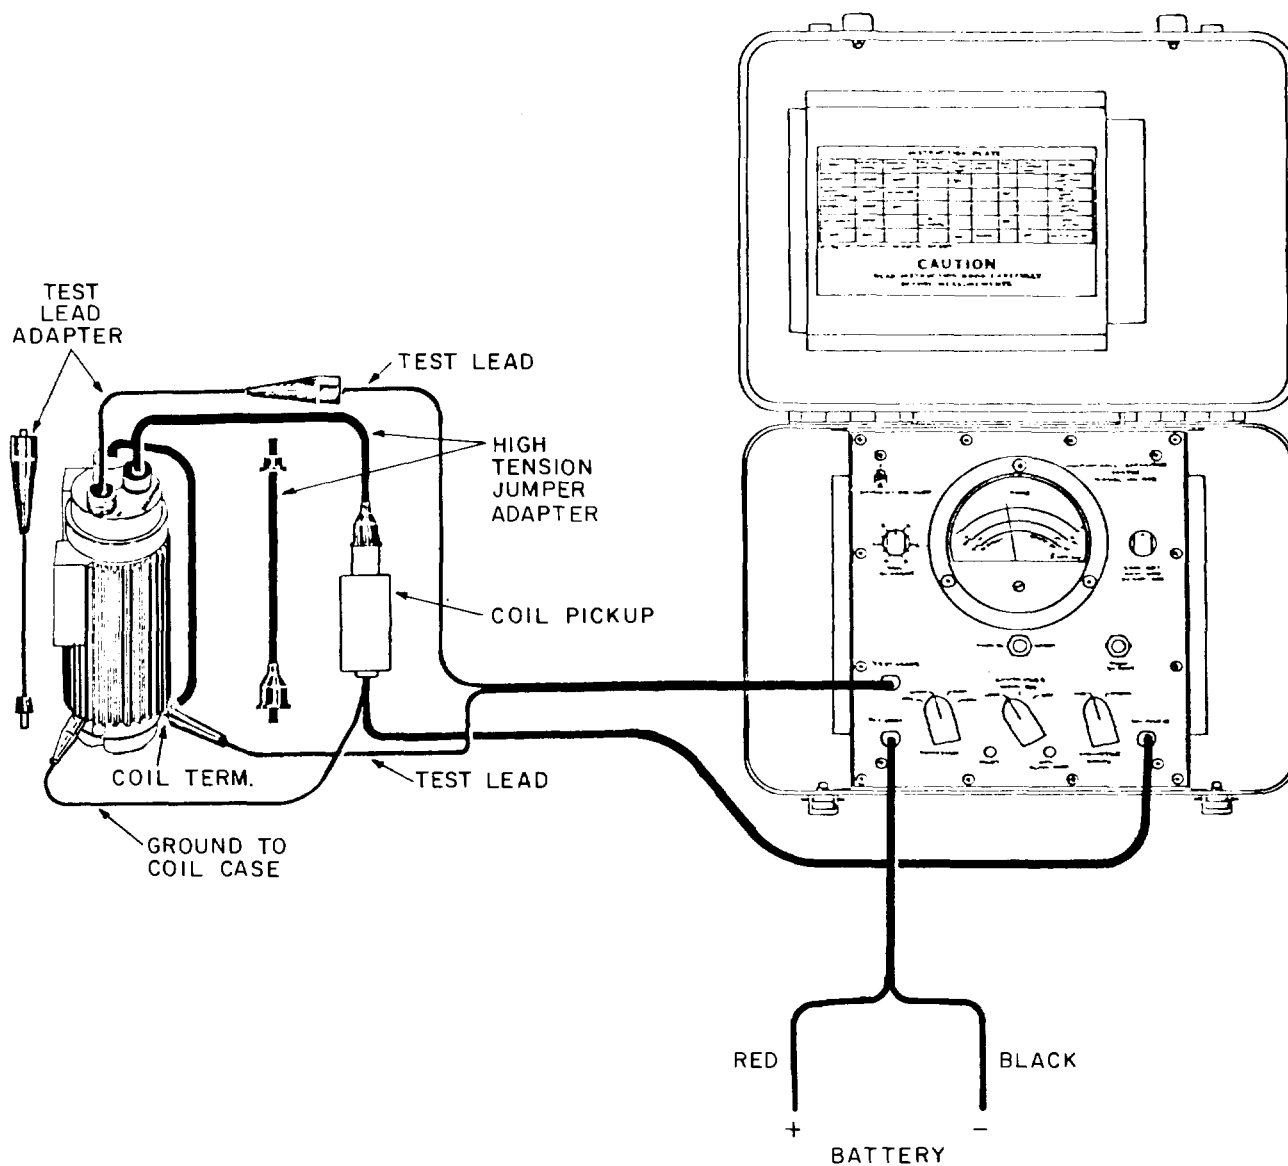

Figure 2-5. Setup for Testing Coil Voltage
- (5) Observe WARNING and depress PUSH TO TEST switch. While holding PUSH TO TEST switch depressed, adjust COIL CURRENT control clockwise until meter indicates 20 to 25 KV on the black scale. Check that COIL FLASHOVER indicator does not illuminate.
- (6) Release PUSH TO TEST switch.
- (7) Set COIL CURRENT control to extreme counterclockwise position.
- (8) Set FUNCTION switch to OFF.
c. Coil Voltage Test (Delco-Remy 1115282). See figure 2-5 and proceed as follows:
- (1) Connect TEST LEAD with red boot to terminal lug on the end of the wire to + connector.
- (2) Using adapter number 403BA034, connect the other TEST LEAD to the connector.
- (3) Using adapter number 403BA033, connect COIL PICK-UP to coil secondary. Be sure that adapter is firmly inserted into COIL PICK-UP and coil secondary connector.
- (4) Connect the black lead attached to the COIL PICK-UP to the case of the coil.
- (5) Set FUNCTION switch to COIL.